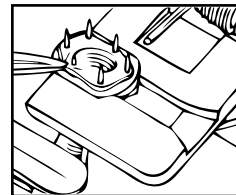
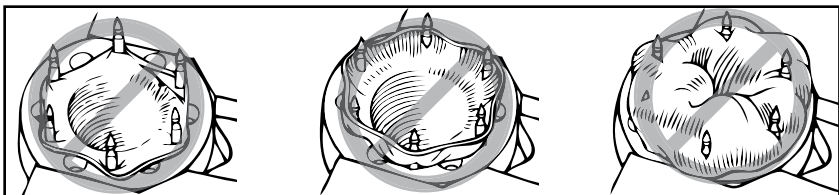

Figure 8
Figure 9
9. Take a bite of approximately one to two pin diameters of the vessel wall and intimal lining, evert 90 degrees and impale onto one pin. Proceeding in a triangular fashion, impale the vessel firmly upon every other pin, completing three pins (See Figure 7). Complete vessel placement on the ring by impaling the vessel upon the remaining three intermediate pins (See Figure 8). Ensure that both the vessel wall and the intimal layer are fully impaled upon each pin to reduce the risk of thrombosis. Should the vessel wall tear during impalement, remove the vessel, trim the end, and repeat the procedure. For examples of improper impalement of the vessel see Figure 9.